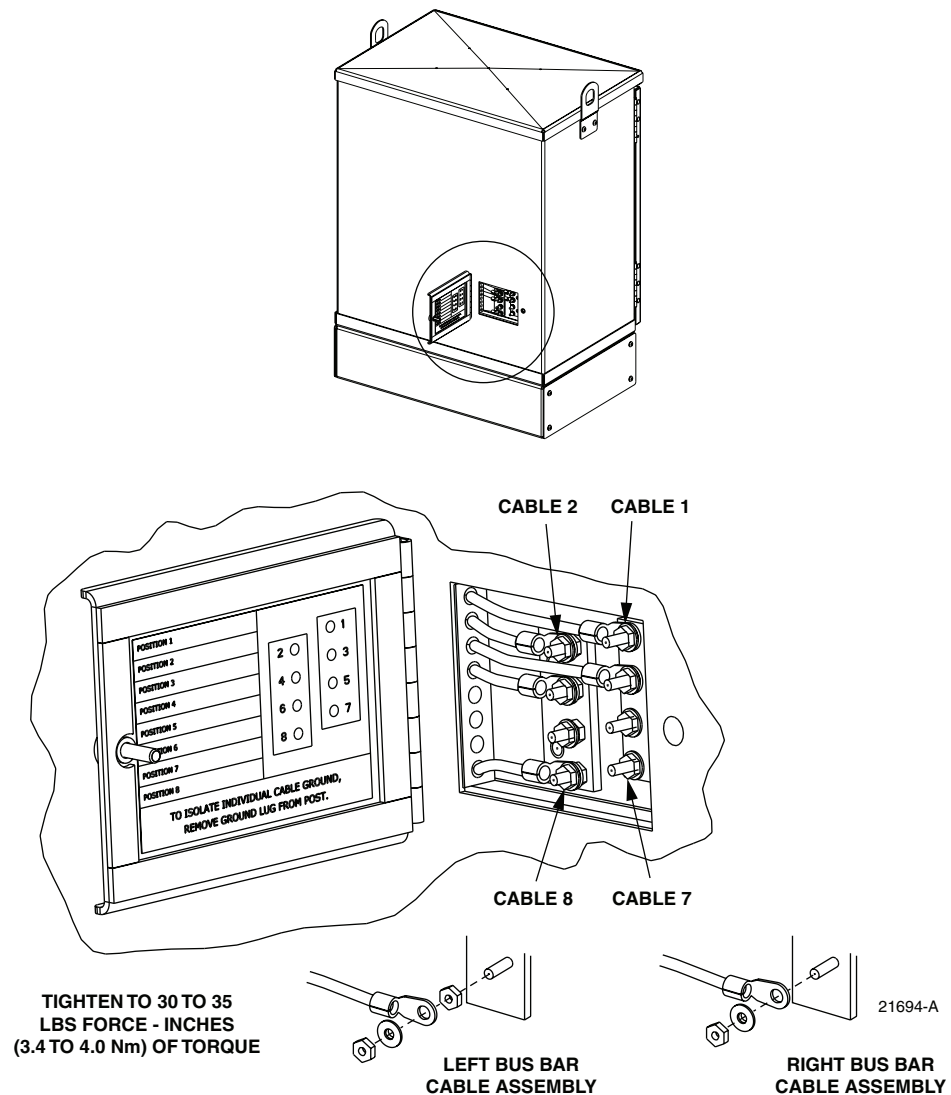

Figure 28. Grounding Block Access Cover
1. Locate the small hinged access cover at the rear side of the cabinet as shown in Figure 28.